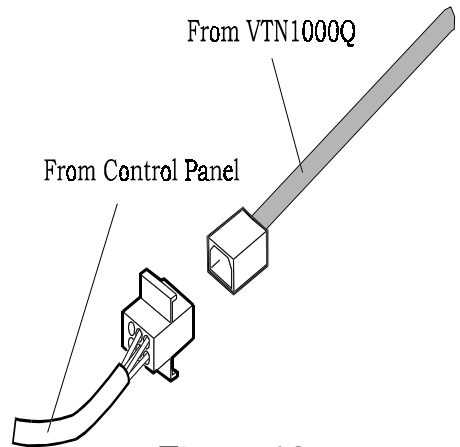

Figure 13
1. Connect the VTN1000Q moxex plug connector to the connector present inside the hood as shown in Figure 13.